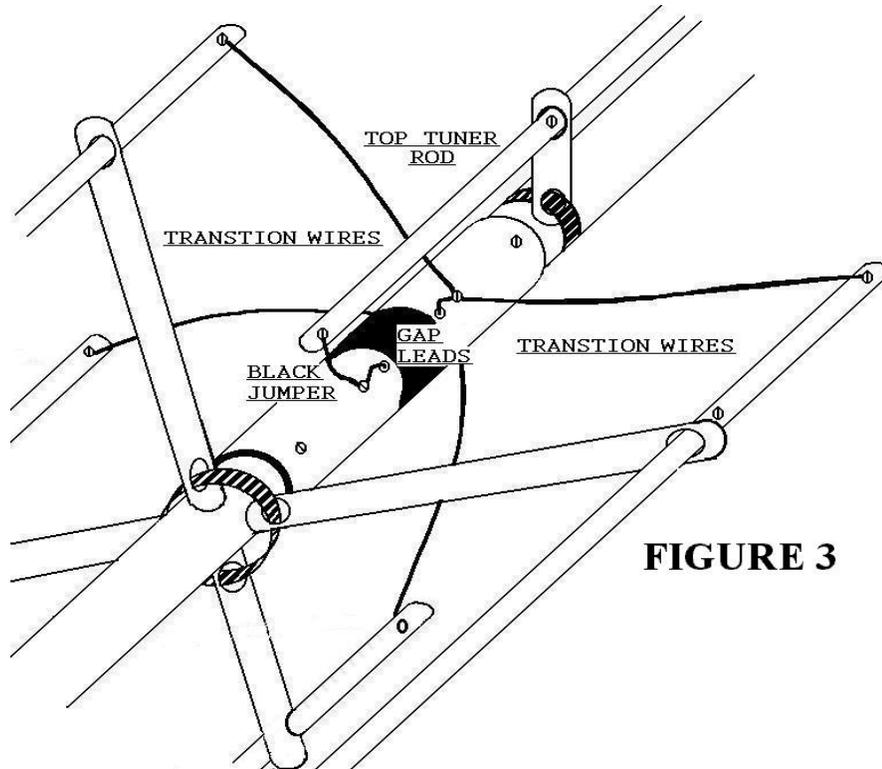

FIGURE 3
I) Align the holes on the insulator with the holes in the Mid Section. Place a screw and washer through the remaining ring terminal on the short yellow GAP lead coming out from the center insulator. Insert this screw in the hole closest to where the lead comes out of the center insulator. See figure 3. Insert the remaining 3 screws and tighten. Leave the standoffs as is, for the moment.
C) Slide the tuner rod toward the GAP. Locate a black jumper. Remove the screw holding the lower GAP lead, see fig. 3. Place the black jumper under the screw with the GAP lead, reinsert and tighten.